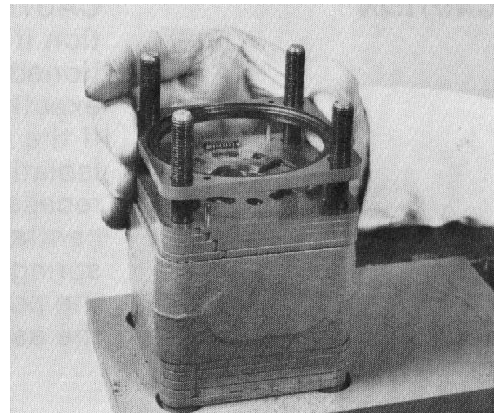

Figure 98
35. Apply clean grease to a seal ring and put it in the valve ring recess that will face down when installed. Install the valve ring over the bolts and alignment pins with the seal ring facing the isolation manifold (Fig. 98).